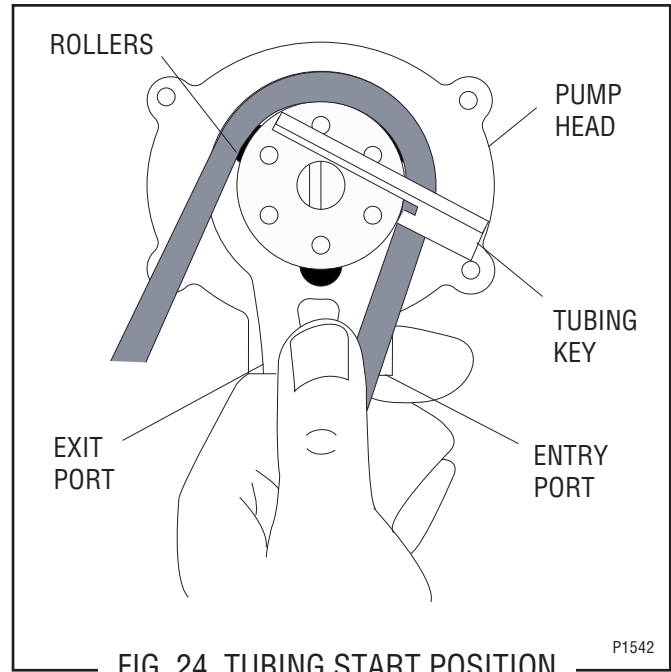
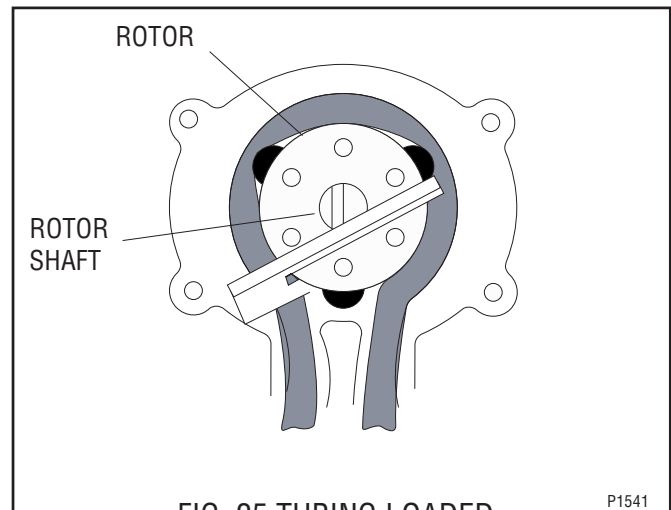

FIG. 24 TUBING START POSITION
FIG. 25 TUBING LOADED
3. Hold the new pump head as shown in Fig. 24, with rollers in the 2, 6, and 10 o'clock positions.
4. Reinstall tubing in the new pump head by wrapping the tubing around the rollers as shown in Fig. 24.
5. Insert the slot of the tubing key (supplied), as shown in Fig. 24, on the rotor so the bottom edge of the key is pressing the tubing into the pump head cavity as shown in Fig. 25.